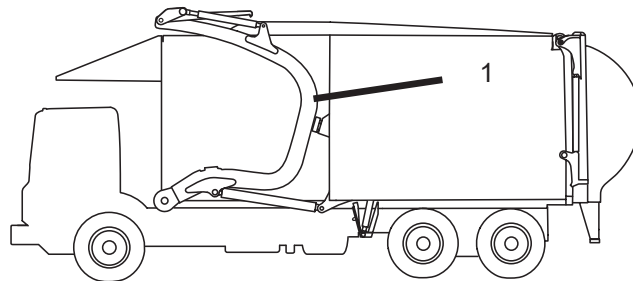

Figure 1
5. Ensure the arms are in the retracted position (Figure 1).